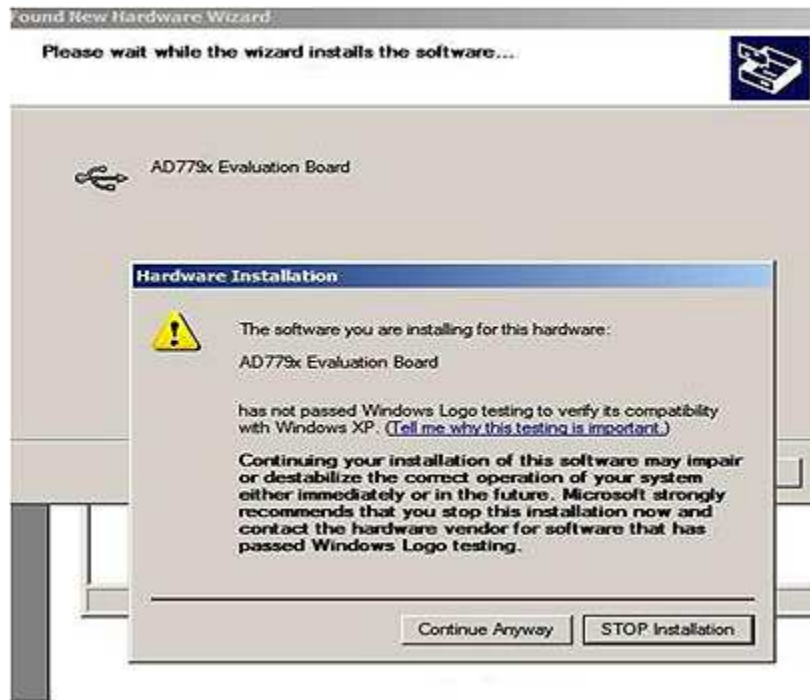

Figure 2. Hardware Installation Window
3. Follow the on-screen instructions that appear. During the installation process if the **Hardware Installation Wizard** appears as shown in Figure 2, select **Continue Anyway** to successfully complete the installation of the AD7794 evaluation board.